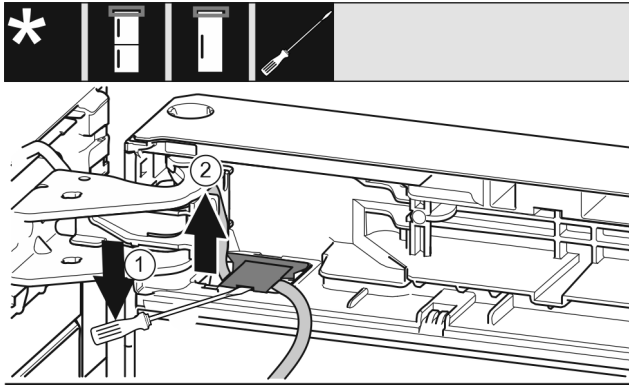

Fig. 21
- ▶ Lift up the cover with a screwdriver and pull it out. Fig. 21 (1)
- ▶ Pull out the cable. Fig. 21 (2)